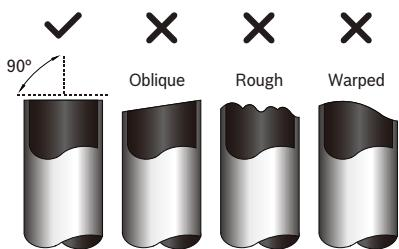

Figure 26
- Make sure that the pipe is cut at a perfect 90° angle. Refer to Fig.26 for cut examples.